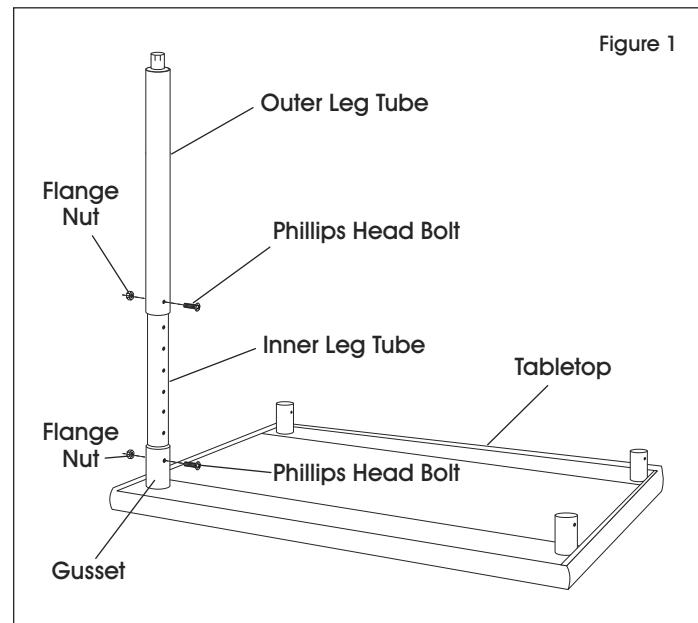

Figure 1
1. With tabletop upside down, place inner leg tube in tabletop gusset. Secure inner leg tube to tabletop gusset with one Phillips head bolt and flange nut using Phillips head screwdriver and 10 mm wrench. (See Figure 1)
2. Place outer leg tube over inner leg tube and set to preferred height. Secure inner and outer leg tubes together with one Phillips head bolt and flange nut using Phillips screwdriver and 10 mm wrench. Set and secure remaining legs at the same height. (See Figure 1)